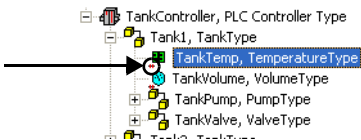

Figure 25. Icon Indicating a Not Connected Process Signal
- 26. The  icon indicates that the process signal is not connected externally, see also Figure 25.